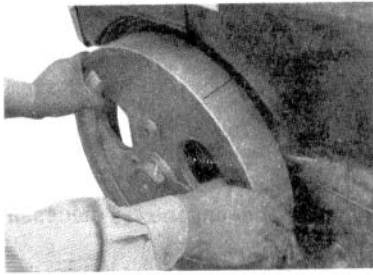

Fig. 13 Turn the Flywheel to T. D. C. Position
3. 4. 5. 2 Open the decompression lever to continue turning the flywheel until its mark of T. D. C. is directly against the mark on the water tank (Fig.13).
Loosen the connecting nuts on high-pressure fuel pipe (Fig.13) or open the decompre-ssor to stop the engine running at once if abnormal sound is heard suddenly or flying running occurs.